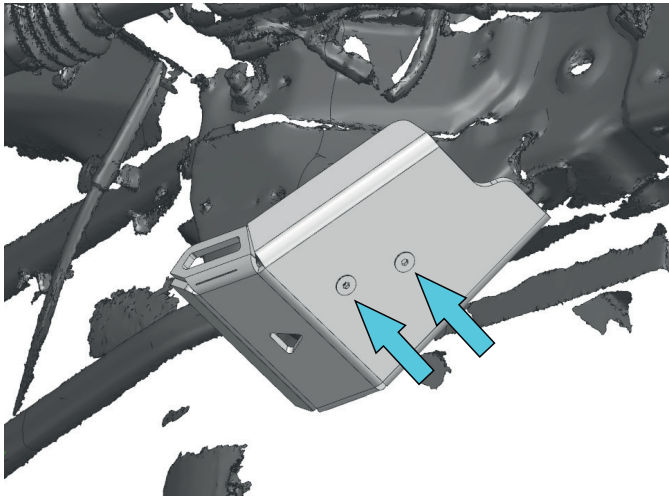

Fig. 1
1. Install the rear arm skid plate (left) (item 1) in factory mounting points using screws M6x20 (item D) (Fig.1).